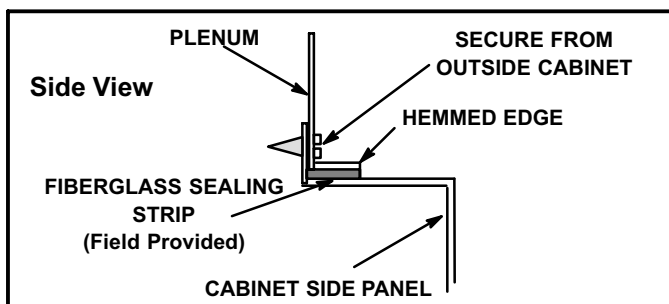

FIGURE 7
- 1 - Bottom edge of plenum should be flanged with a hemmed edge (See figure 7).